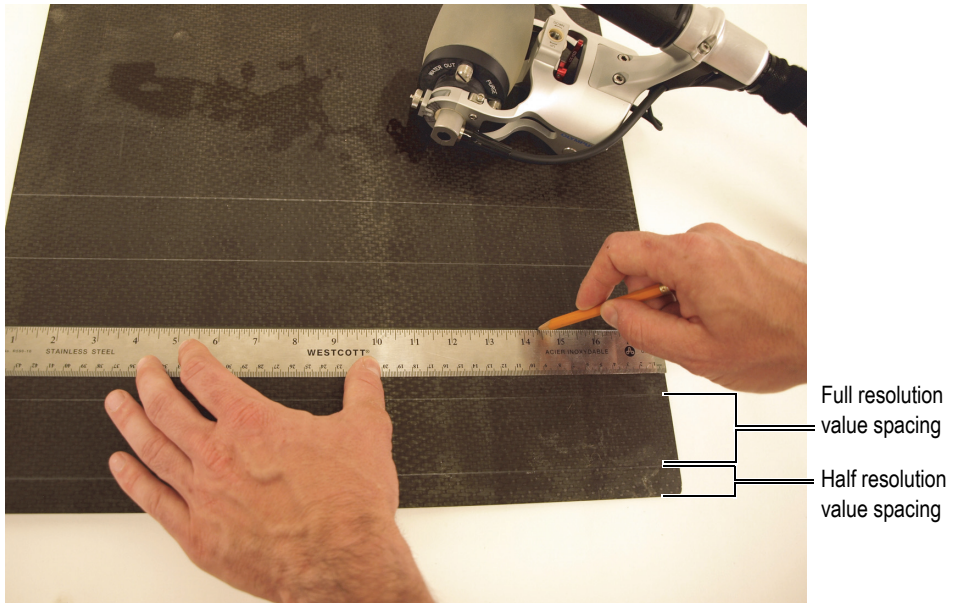

Figure 4-9 Drawing parallel lines on the surface to inspect
3. On the surface to inspect, draw parallel guide lines using the resolution value (Figure 4-9 on page 67).